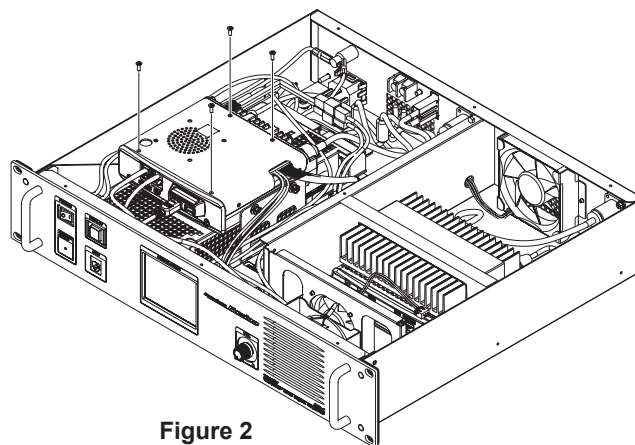

Figure 2
- 4 Referring to Figure 2, remove the 4 screws from the top cover of the RX-Unit, then remove the top cover.